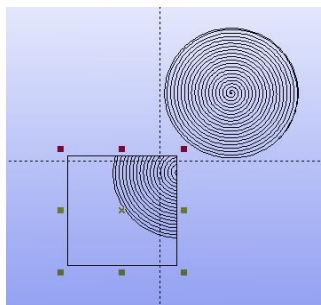

Figure 8.6 Background fill effect
- (6) Return to the filling interface and click OK;
- (7) Remove the rectangle to display the fill effect, as shown in Figure 8.6.